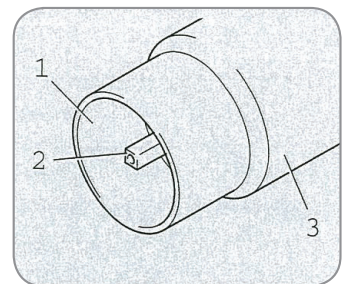

Figure 4
3. Unscrew square centre bolt [Item 2] with appropriate spanner and remove piston [Item 1] from the airbag bellows [Item 3] (*Figure 4*).